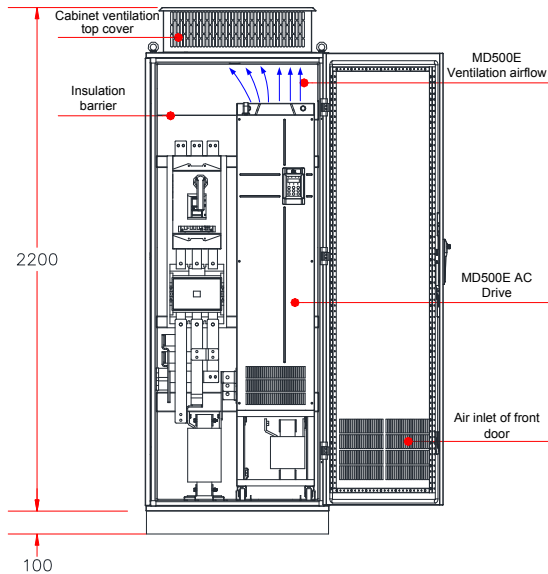
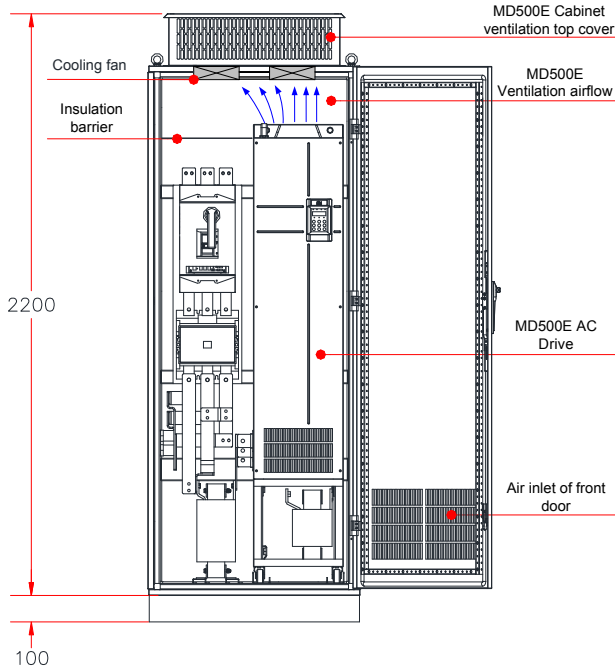

Figure 3-11 Direct discharging cabinet
Figure 3-12 Cabinet with fan on the top
- ◆ See Figure 3-3 for mounting clearance requirements. Ensure there is sufficient space allowing for efficient heat dissipation of the drive and the other devices in the cabinet, as shown in Figure 3-11 and Figure 3-12.